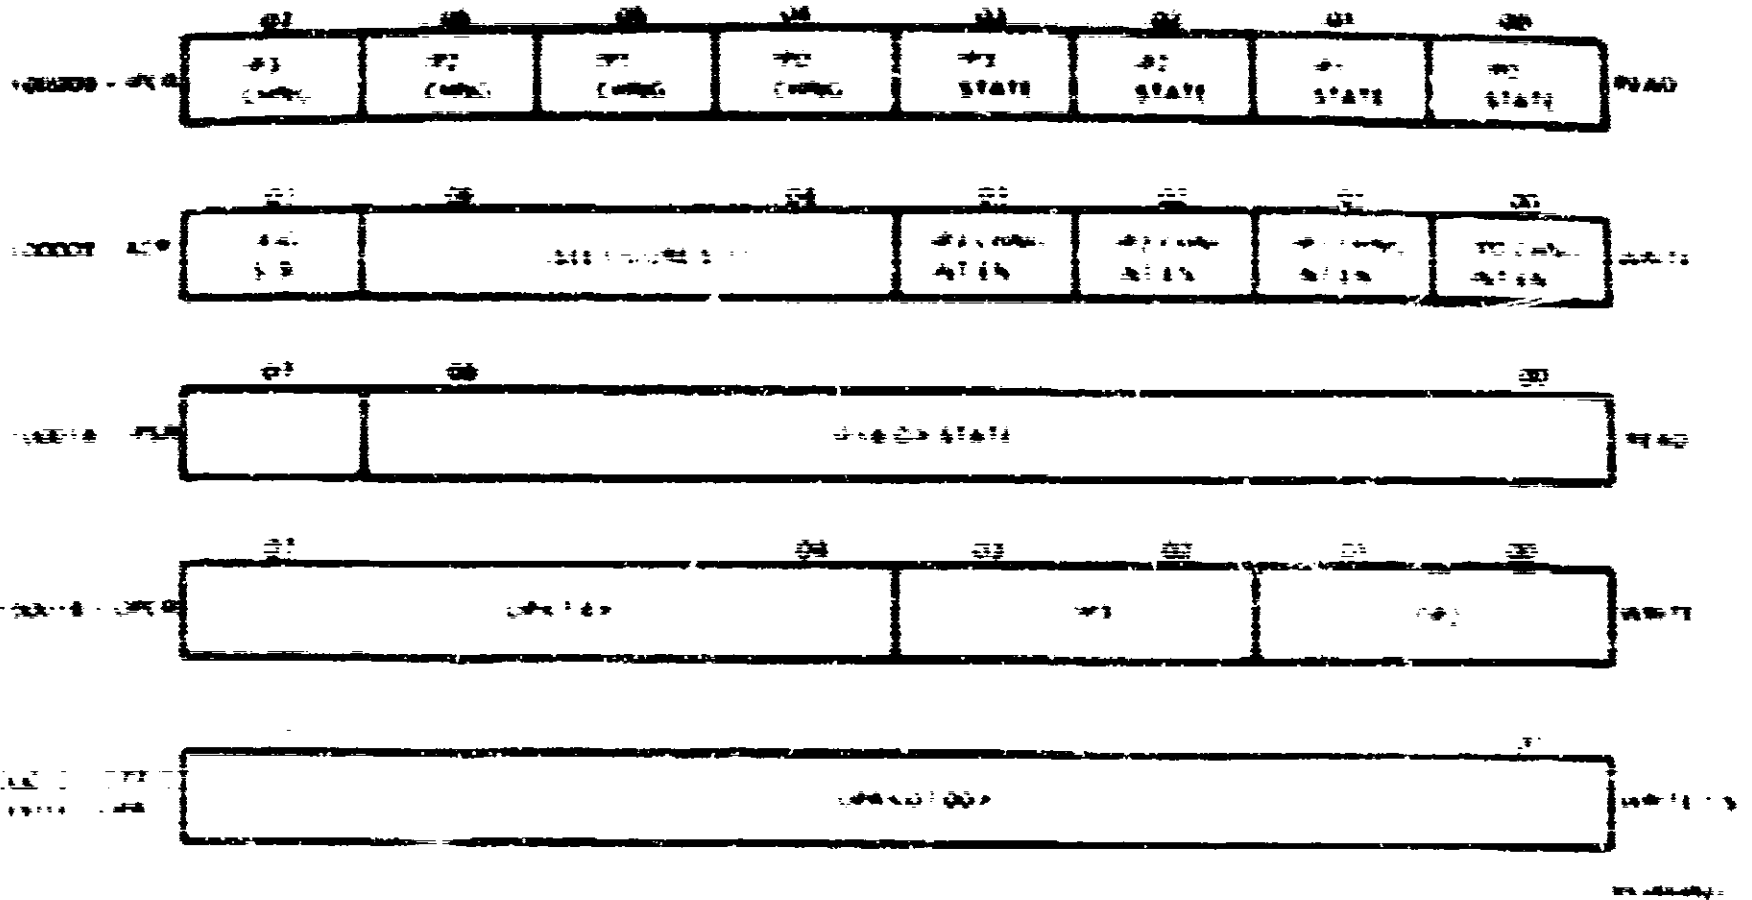

Figure 5-10 DART Input and Output Port Register Bit Formats
Figure 5-10 shows the register bit formats, hexadecimal addresses, and read/write functions for the input port (IP) and output port (OP) registers.